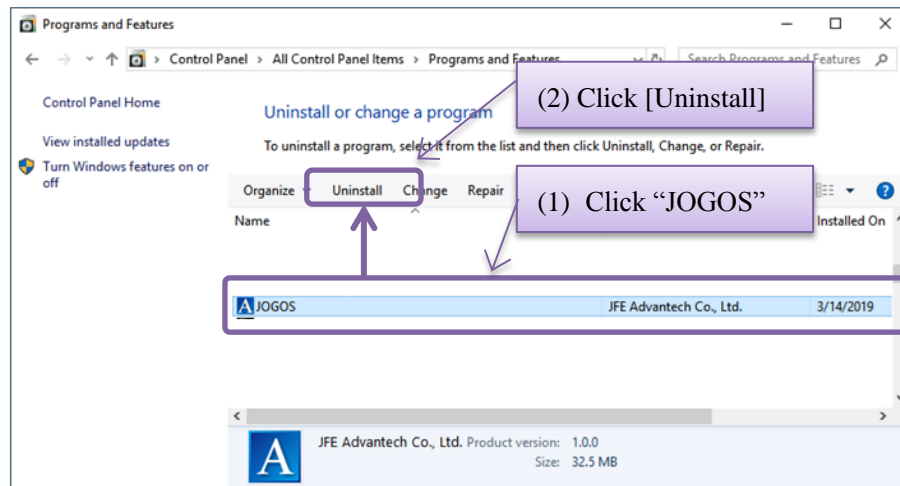

Figure 7.14 Programs and Features
- (3) Choose “JOGOS” and click on [Uninstall]. (Figure 7.14)